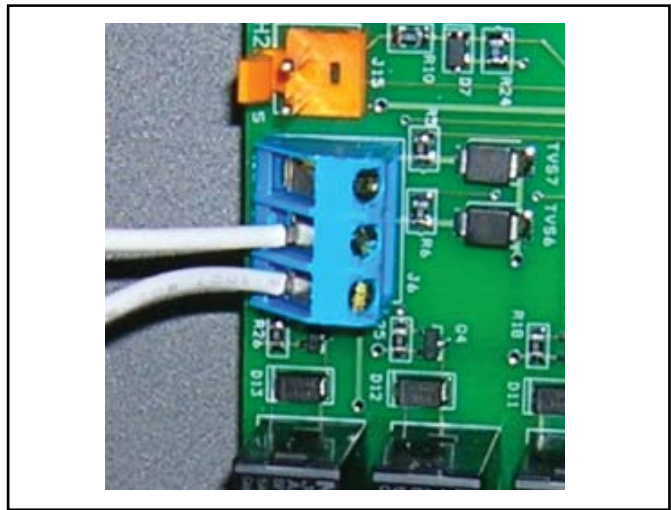

Figure 12b. AquaLink RS or Remote TSTAT Connection (2-Wire Connection)
- Connect the wiring from the pool/spa control system to the heat pump remote control terminal (See Figure 12b).